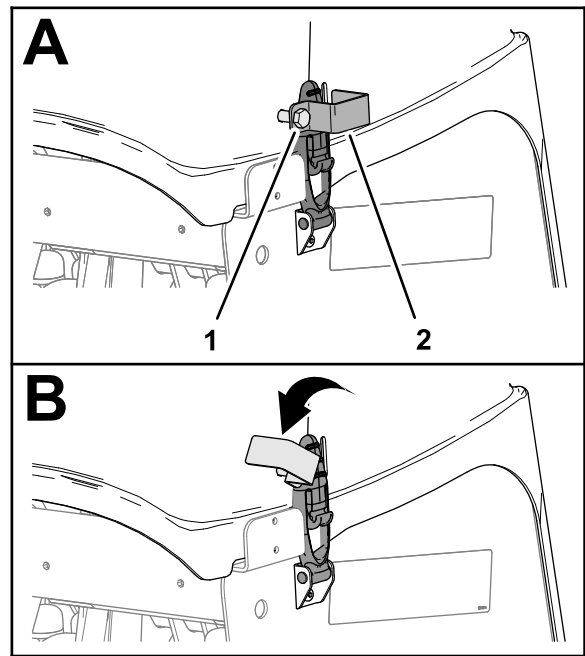

Figure 149
1. If you machine has CE latch locks, loosen the lock-plate bolt until the lock plate clears the slot in the side of the coring-head cover (Figure 149).